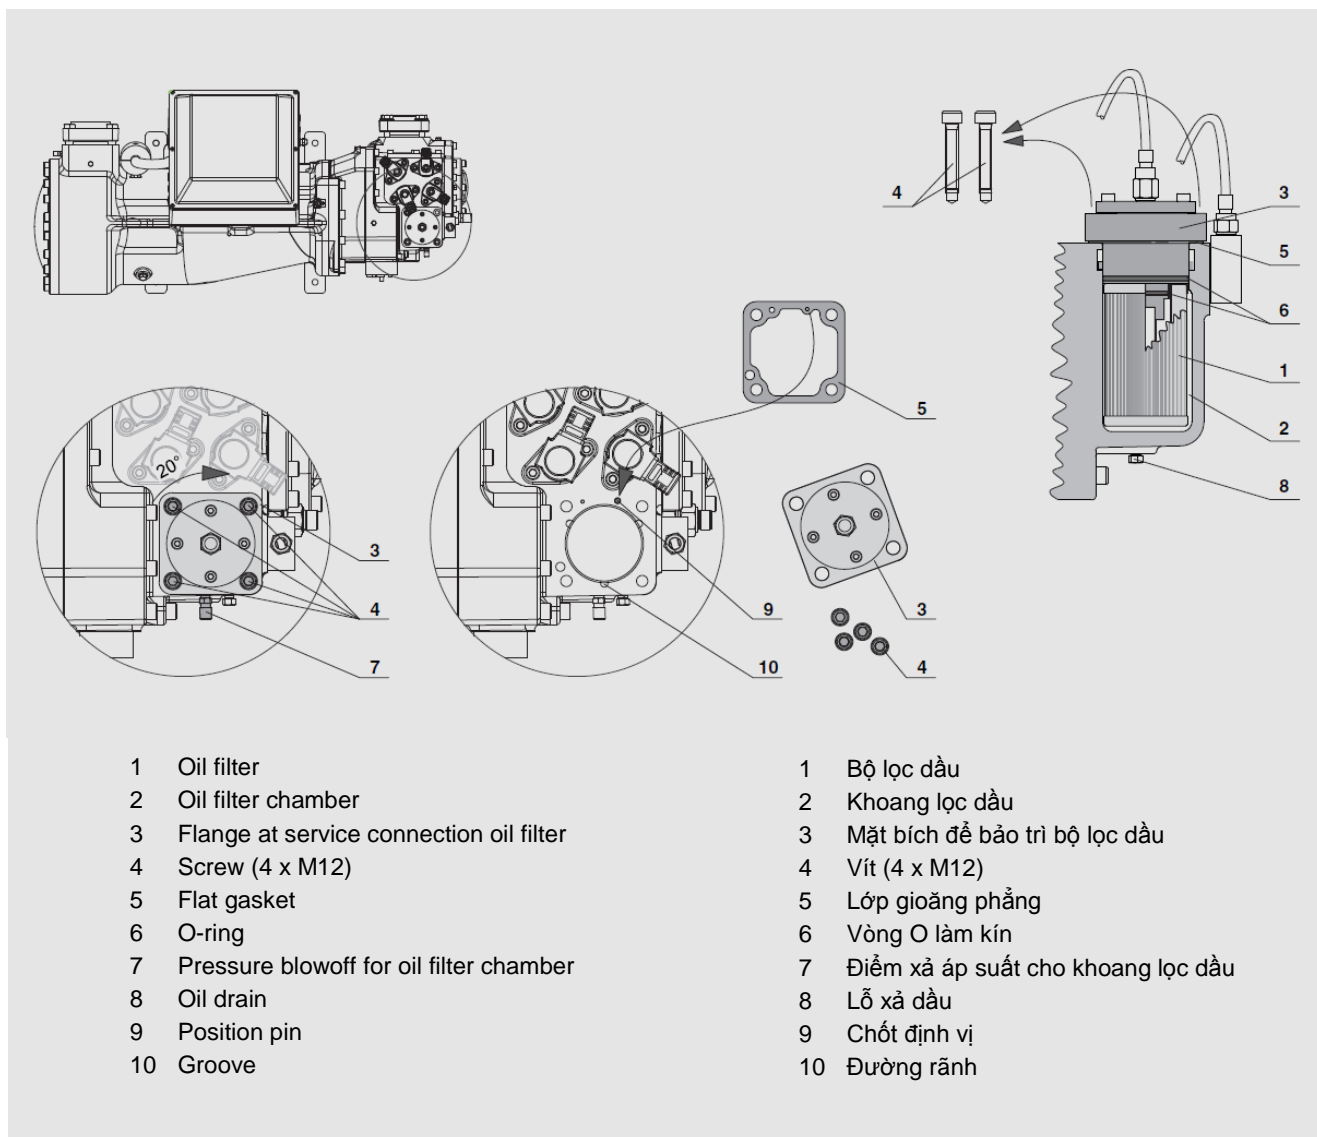

Fig. 9 Oil filter
- Release the pressure in the oil filter chamber (pos. 2, fig. 9) **separately!** Blow off oil and refrigerant from oil filter chamber (2) at pressure relief (7).
- Drain oil at oil drain (pos. 8, fig.9).
- Remove the four screws (4) at the flange (3) at service connection oil filter. Pull flange 15 mm upwards and turn it 20 degrees clockwise. Pull out entire unit and remove oil filter (1).
- Insert new flat gasket (5) and O-rings (6) and attach new oil filter (1). Place flat gasket according to position pin (9) in housing.
- Place entire unit into the three nuts (10), turn 20 degrees counterclockwise and push downwards. Slide position pin (9) into the appropriate bore at the bottom side of the flange.
- Insert the four screws (4) into the flange (3) and tighten crosswise (80 Nm).